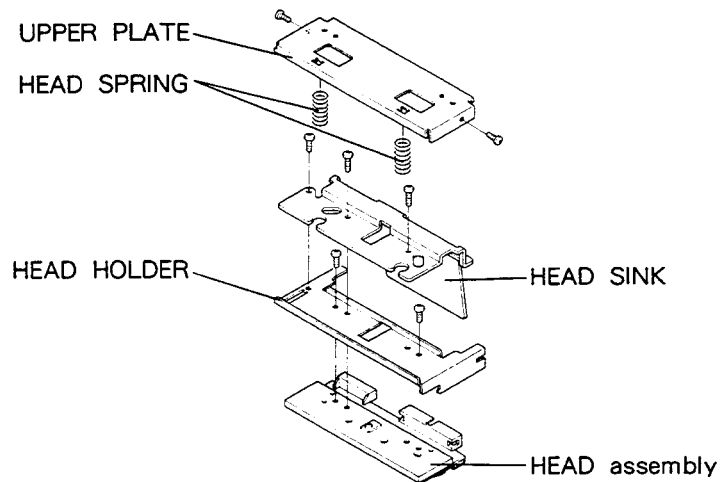

Fig. 13
5. Remove the screws securing the UPPER PLATE. (Fig. 13)
7. Remove the screws securing the HEAT SINK. (Fig. 13)